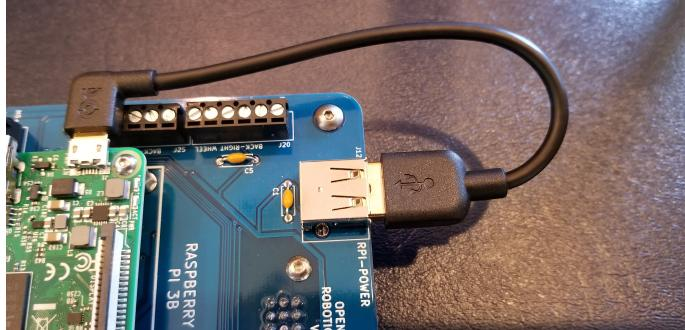

Figure 31: RPi Install
1. Insert the Raspberry Pi into the Board, making sure that the USB ports face downward on the board. Figure 31 show this orientation.